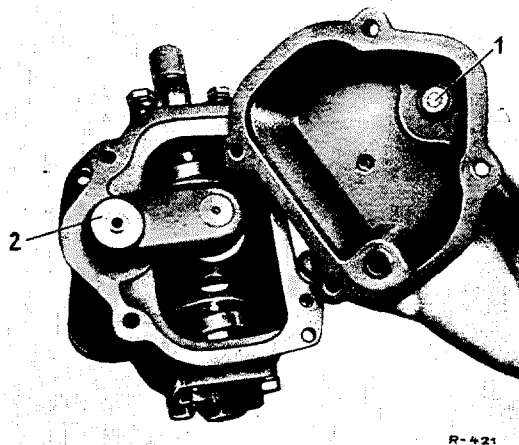

Fig. L 4/20
3. Unscrew the hexagon nut (1) and the set screw (2) in the housing cover to the point where the pressure sleeve (7) is no longer under stress (see Fig. L 4/21).
4. Remove the four housing cover fixing screws and remove the cover and gasket. Take out the pressure sleeve (1) together with the compression spring (Fig. L 4/20).